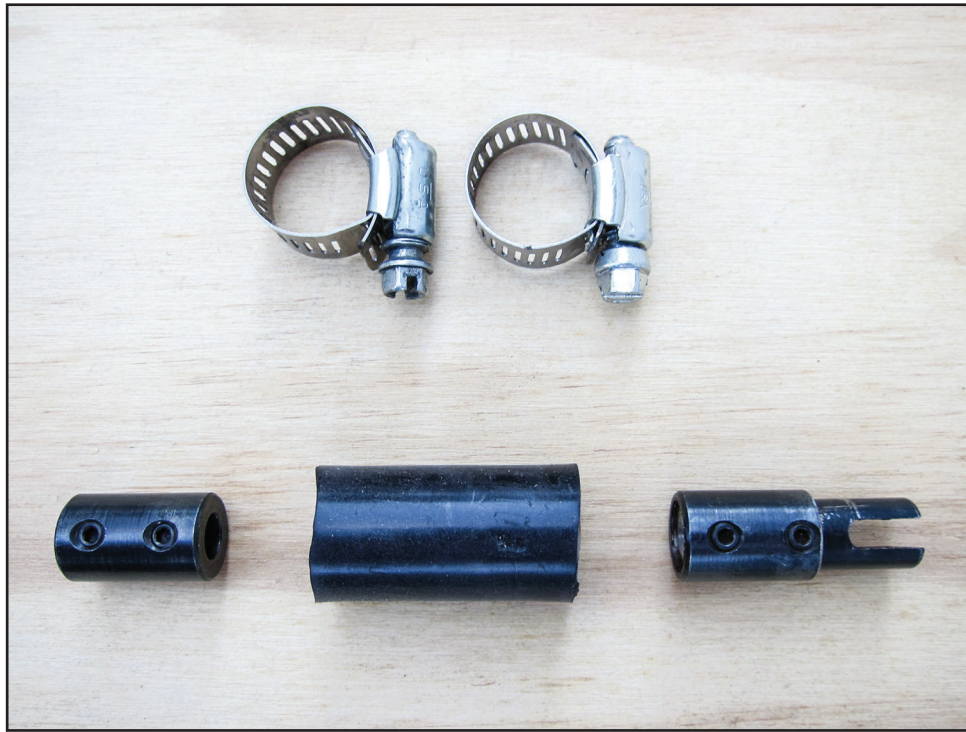

Fig. 10: Components of flexible coupler
4. To make up for minor misalignment between the motor and distributor, a flexible coupling made from 5/8-inch hose is extremely helpful. I found that common heater hose was too stiff, but a soft silicone hose worked very well. Figure 10 shows the components of the flexible coupler. The motor end is simply a standard shaft coupler that matches the 5/16-inch diameter of the motor shaft and also matches the 5/8-inch inside diameter of the silicone